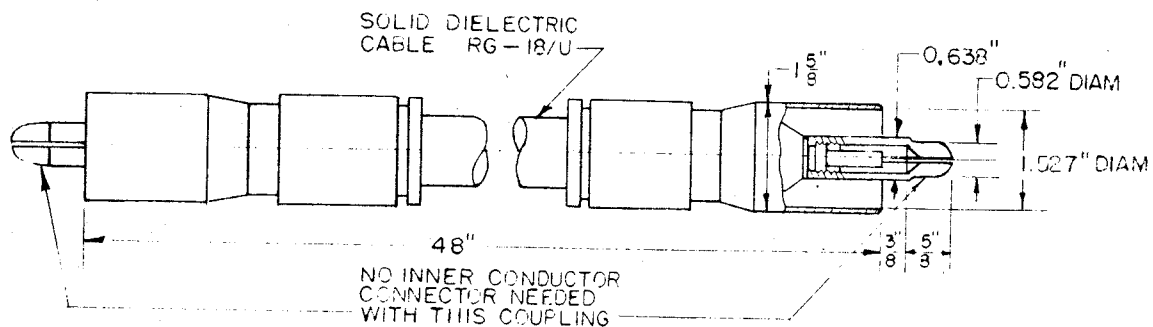

Figure 11-73. Flexible Connector Cable and Adapter Couplings, Navy Type 62202A
The connector cable as shown in Figure 11-73 is used with bead-supported coaxial transmission line (Teflon) when it is necessary to have a flexible joint in the line. This cable is made up with
(3) ANGLE END-SEAL. - The transmission line is connected into the transmitter through the angle end-seal. The angle end-seal is fastened to the transmitter with a flange that permits mounting at various angles for attaching to the transmission line. The end away from the transmitter is connected to the transmission line through the gas-admission coupling. When a cable connector, Navy Type 62202A (Figure 11-73), is used to connect the angle at the transmitter into the transmission line, no end-seal is needed on the angle connection. See Figure 11-75.
(4) GAS-ADMISSION COUPLING. - The point where the dehydrating unit is to be coupled into the line is usually located near the radar transmitter; the gas-admission coupling is used at this point. It is joined to the transmission line in exactly the same way as a straight solderless coupling. The tube carrying dry air from the dehydrating unit is fastened to one of the 1/4 inch flare fittings with a flare-fitting union nut.